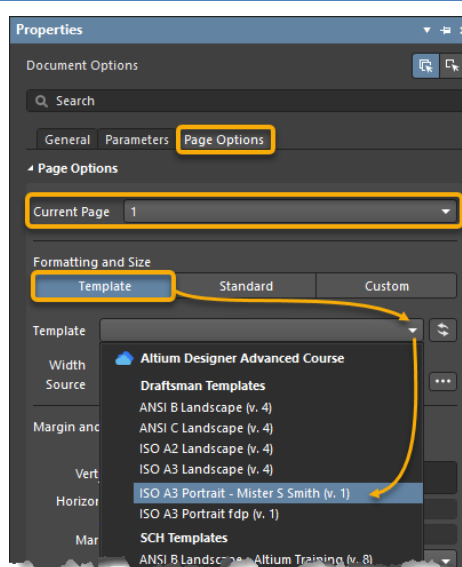

Figure 11. Select Sheet Template
26. Next, you will change the Sheet definition for the new template, using Figure 11 as a reference. With *Copy of Default Fabrication Drawing* as an active document and nothing selected, open the *Properties* panel: